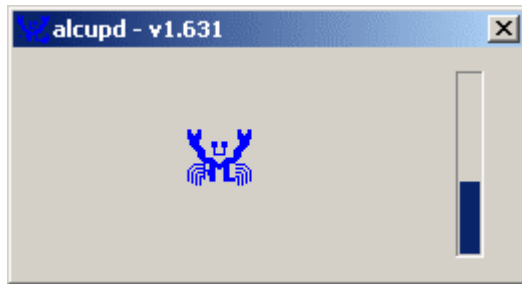

Figure 7-25: Audio Driver Installation
Step 10: Click **YES** and the driver installation begins (Figure 7-25).